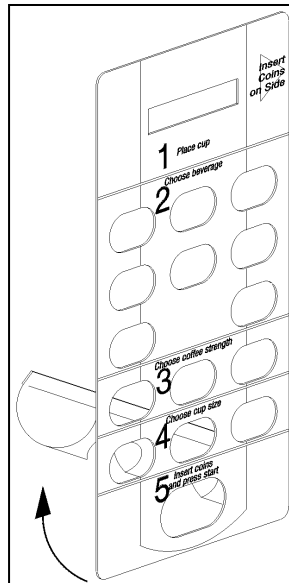

Figure 3 – Remove Backing
- Peel the backing paper from the rear of the fascia (Figure 3).